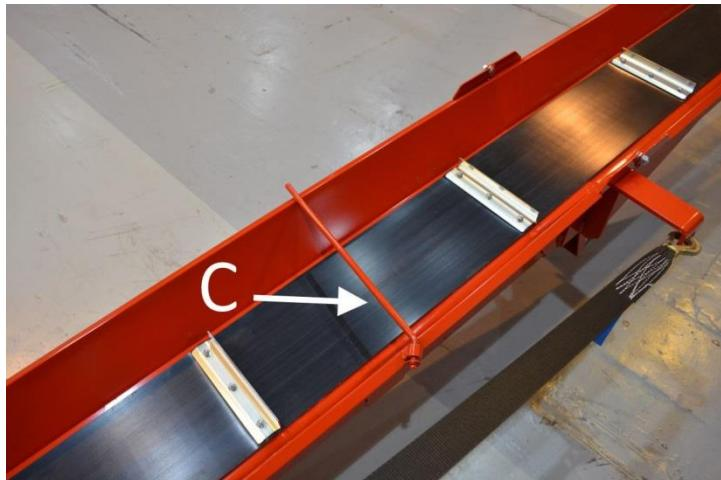

Figure 4c.
- Turn transport position support bar C on the out-feed conveyor belt (Figure 4c) to the side.